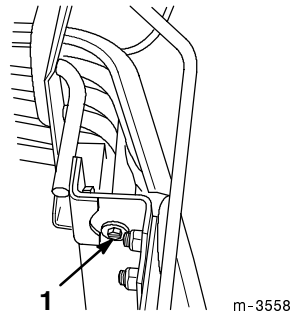

Figure 58
2. Raise the hood and unscrew the two screws and washers securing the grill (Fig. 58).